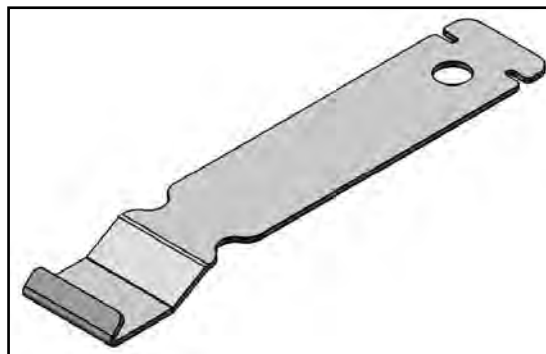
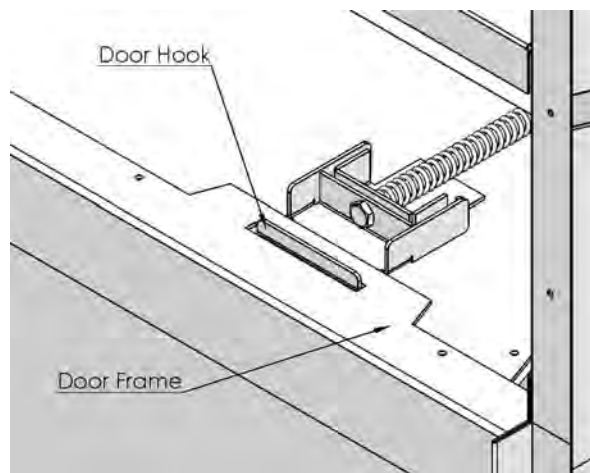

Figure 41: Door Latch /Air Adjustment Tool.
Figure 43: Door Latch Tool in Place.
- 1) The fireplace door is hung on two (2) hooks on the top of the firebox. The two (2) door latches at the bottom of the firebox hook over the tabs on the bottom of the door frame.
- 2) Lower the door latch tool underneath the door frame. Catch the lower door latch with the door latch tool (see Figure 41) and pull it out slightly, then down. Once the lower door latch clears the tab on the bottom of the door frame, release it inwards and then remove the door latch tool. Refer to Figures 43 & 44.